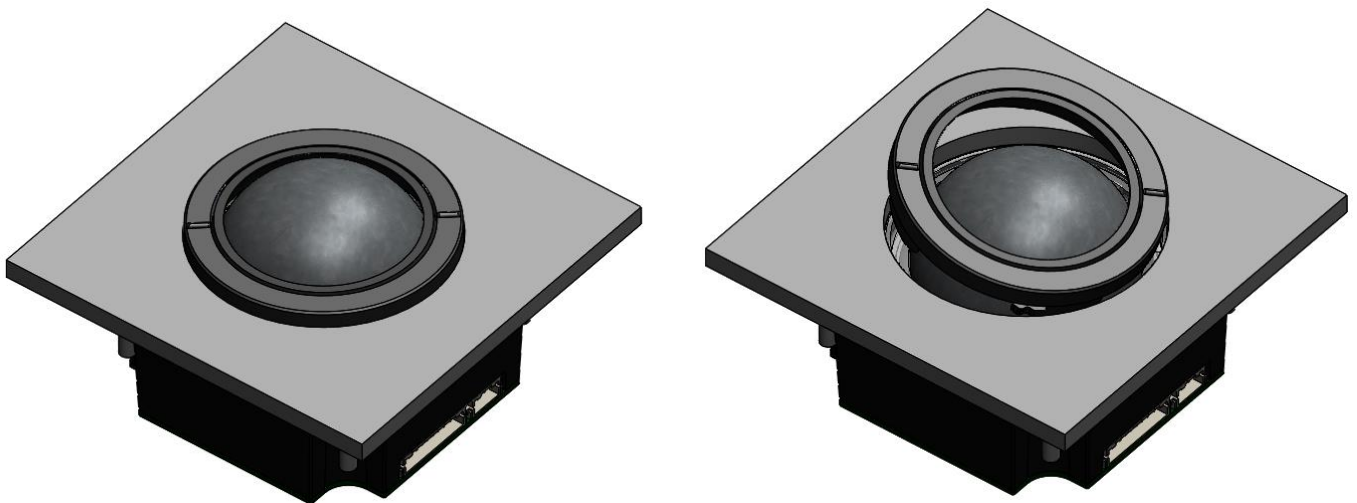

Figure 6 – Removing the ring
- Once the removable ring has been rotated and unlocked, use your fingers to carefully remove it from the module - see figure 6.